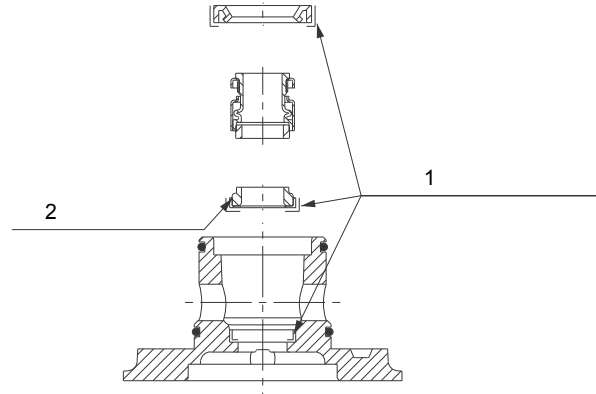

Fig. 14 Shaft seal assembly, 0.9 - 1.5 kW
- Check and clean the oil chamber (155).
- Lubricate the groove for the O-rings (107).
- Fit and lubricate the two O-rings (107) on the shaft seal.
- Make sure that the O-ring (102) is fitted inside the bush (103).
- Fit the bush (103) in the seal ring (104) of the shaft seal (105).
- Fit a new shaft seal (105) using the mounting bush included in the shaft seal kit. See fig. 14.